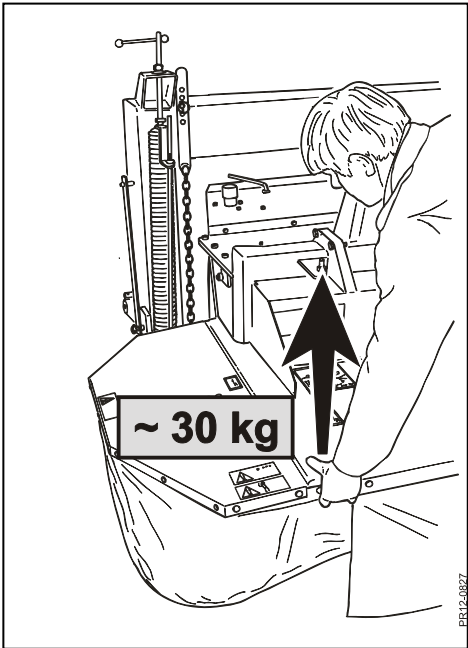
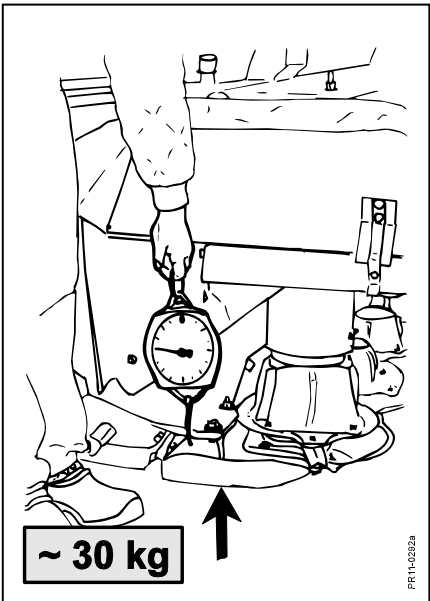

Fig. 3-10
Fig. 3-11
The stubble height is continuously adjustable by adjusting the inclination of the cutter bar and the adjustable guide shoes (Fig. 3-10).
- Fig. 3-10** In principle the spring adjustments can be adjusted in such a way that the cutter bar is floating.
- Fig. 3-11** For instance first you tighten the springs adjusting the lift power of the cutter bar to **30-40 kg on each side**. (See Fig. 3-10, or Fig. 3-11 where a spring weight is used as help).